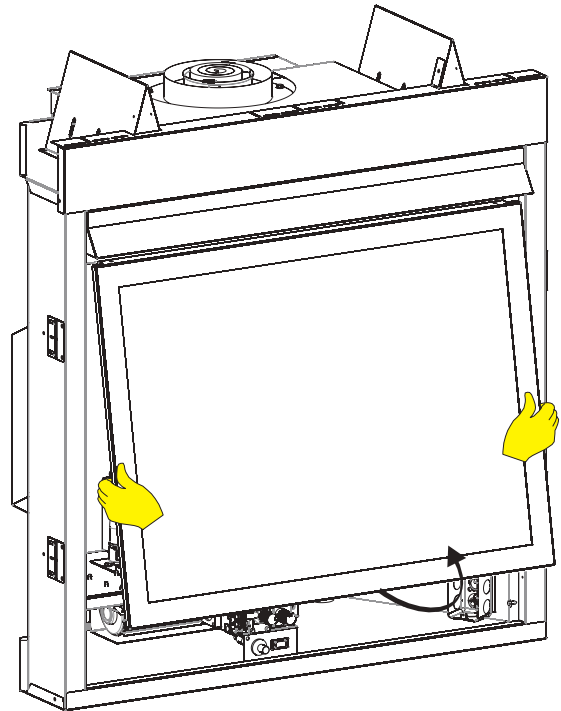

Figure 80
5. Move your hands to the sides of the glass frame and lift it up and away from the fireplace. See Figure 80.